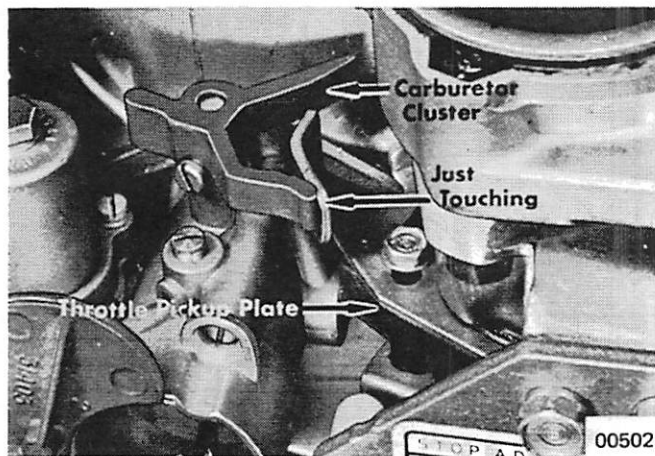

Figure 4. First Throttle Pickup Tab Adjustment
12. Loosen throttle pickup plate screws. (Figure 4)
13. Slide throttle pickup plate so that first throttle tab (without nylon sleeve) just touches carburetor cluster. (Figure 4)